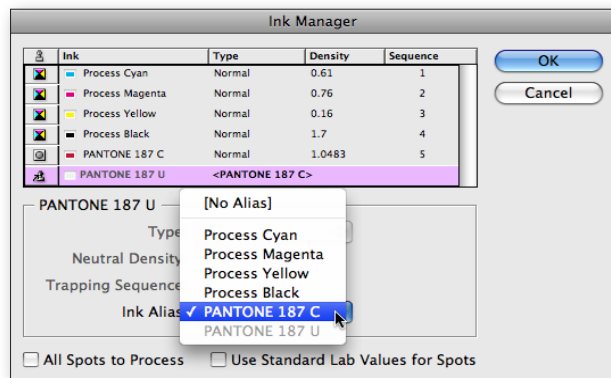

Figure 7: Ink Manager showing dialog, and mapping one spot color to another.
- ▶ Open the Ink Manager from the Swatches or Separations Preview panel menu, or from the Output pane of either the Export Adobe PDF or Print dialogs (Figure 7).